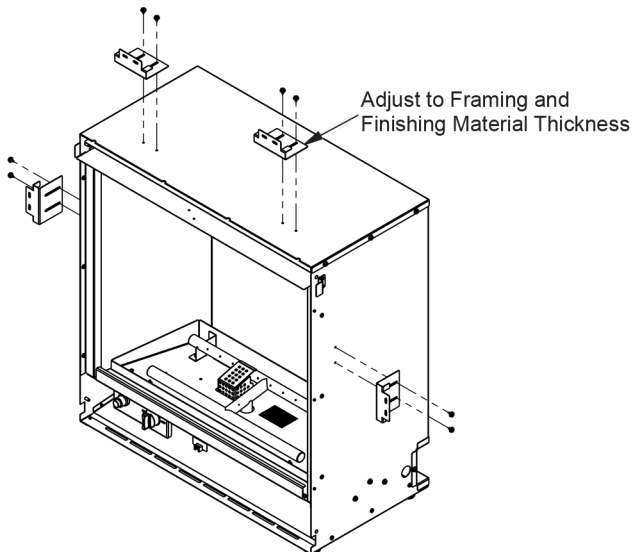

*Figure 6 - Rough Opening for Corner Installation*
1. Frame in the rough opening. Use dimensions shown in Figure 4 for the rough opening. If installing in a corner, use dimensions shown in Figure 6, for the rough opening. The height is 23 1/4", which is the same as the wall opening.